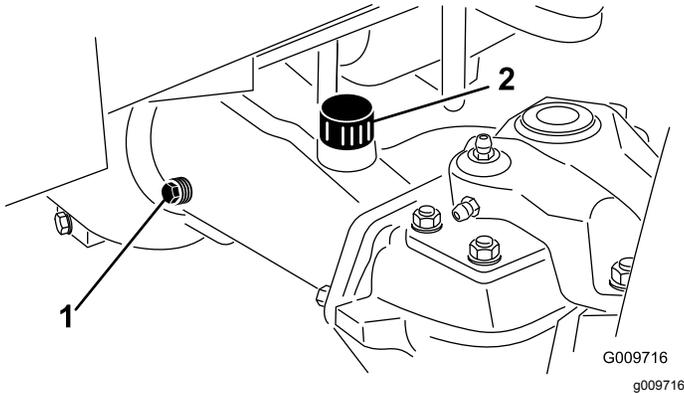

Figure 85
2. Remove a check plug from 1 end of the axle and ensure that the lubricant is up to the bottom of the hole (Figure 85).